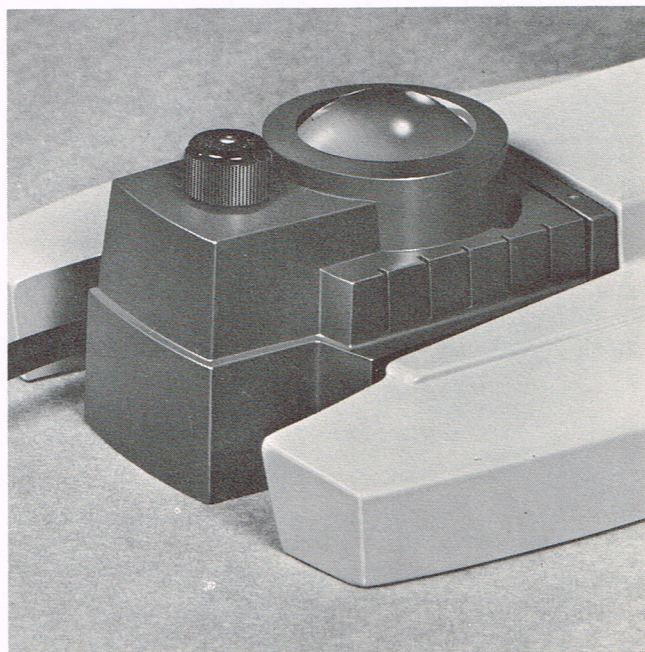

Figure 23. Cat. No. 1034 Illuminator
- a. Cat. No. 1034. This illuminator (figure 23) is designed specifically for monocular models. If ordered with the microscope, it comes attached to the base. If ordered separately, it is easily attached by means of the two screws on the under side of the base. It utilizes a 15 watt medium screw base, 115 volt lamp, and plugs directly into a 115 volt AC outlet. A convenient on-off switch is located at the top of the illuminator. The illuminator contains a reflector, blue glass, and spherical condensing lens. It will fill the numerical aperture of all objectives and provide full field illumination of all magnifications, including the 4X scanning lens.